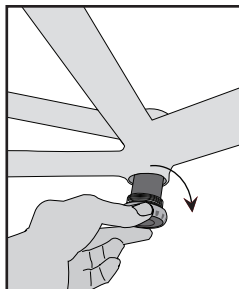

Figure 3 Start the threads of the right cup by hand
3. Start the threads of the right cup by hand (Figure 3). The right cup has normal threading.